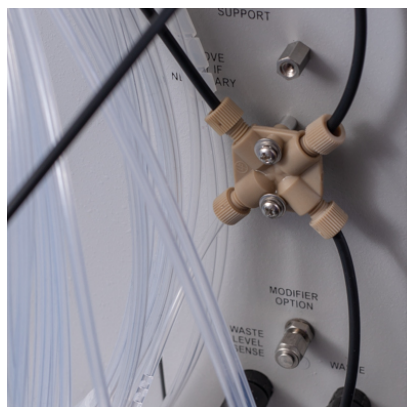

Figure 2-21 AutoSampler waste connection point on ACCQPrep
- Connect the black tube labeled "XX" from the tee on the back of the AutoSampler to the attached 4-port cross on back of the ACCQPrep. (Figure 2-21).